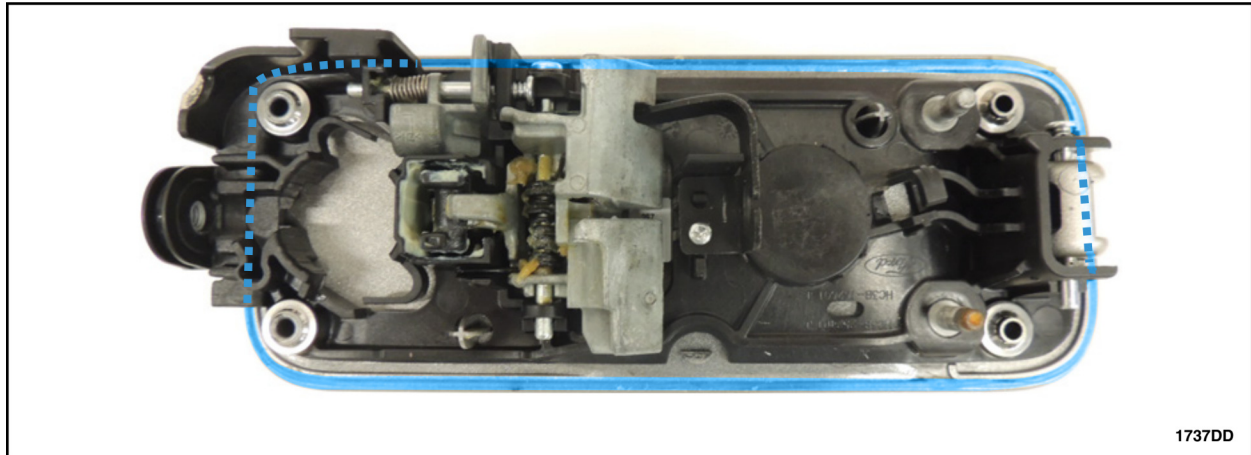

FIGURE 50
34. Using a clean shop towel and isopropyl alcohol, clean the highlighted mating surface area of the exterior rear door handle. See Figure 50.